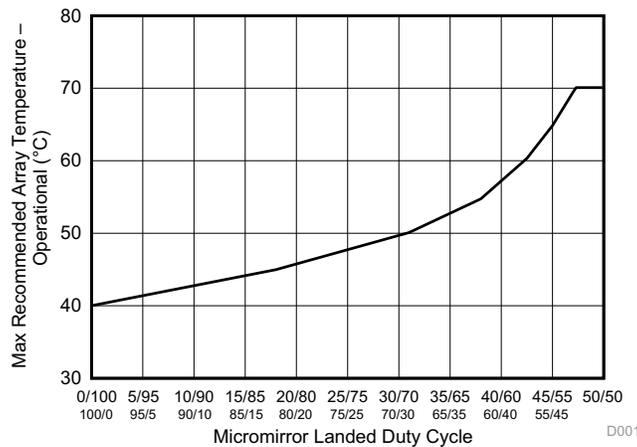

Figure 1. Max Recommended Array Temperature – Derating Curve
- (13) Per Figure 1, the maximum operational array temperature should be derated based on the micromirror landed duty cycle that the DMD experiences in the end application. Refer to Micromirror Landed-On/Landed-Off Duty Cycle for a definition of micromirror landed duty cycle.
- (14) Long-term is defined as the usable life of the device.
- (15) Array temperatures beyond those specified as long-term are recommended for short-term conditions only (power-up). Short-term is defined as cumulative time over the usable life of the device and is less than 500 hours for temperatures between the long-term maximum and 75°C, less than 500 hours for temperatures between 0°C and -10°C, and less than 25 hours for temperatures between -10°C and -20°C.
- (16) Dew points beyond the specified long-term dew point are for short-term conditions only, where short-term is defined as less than 60 cumulative days over the usable life of the device (operating, non-operating, or storage).